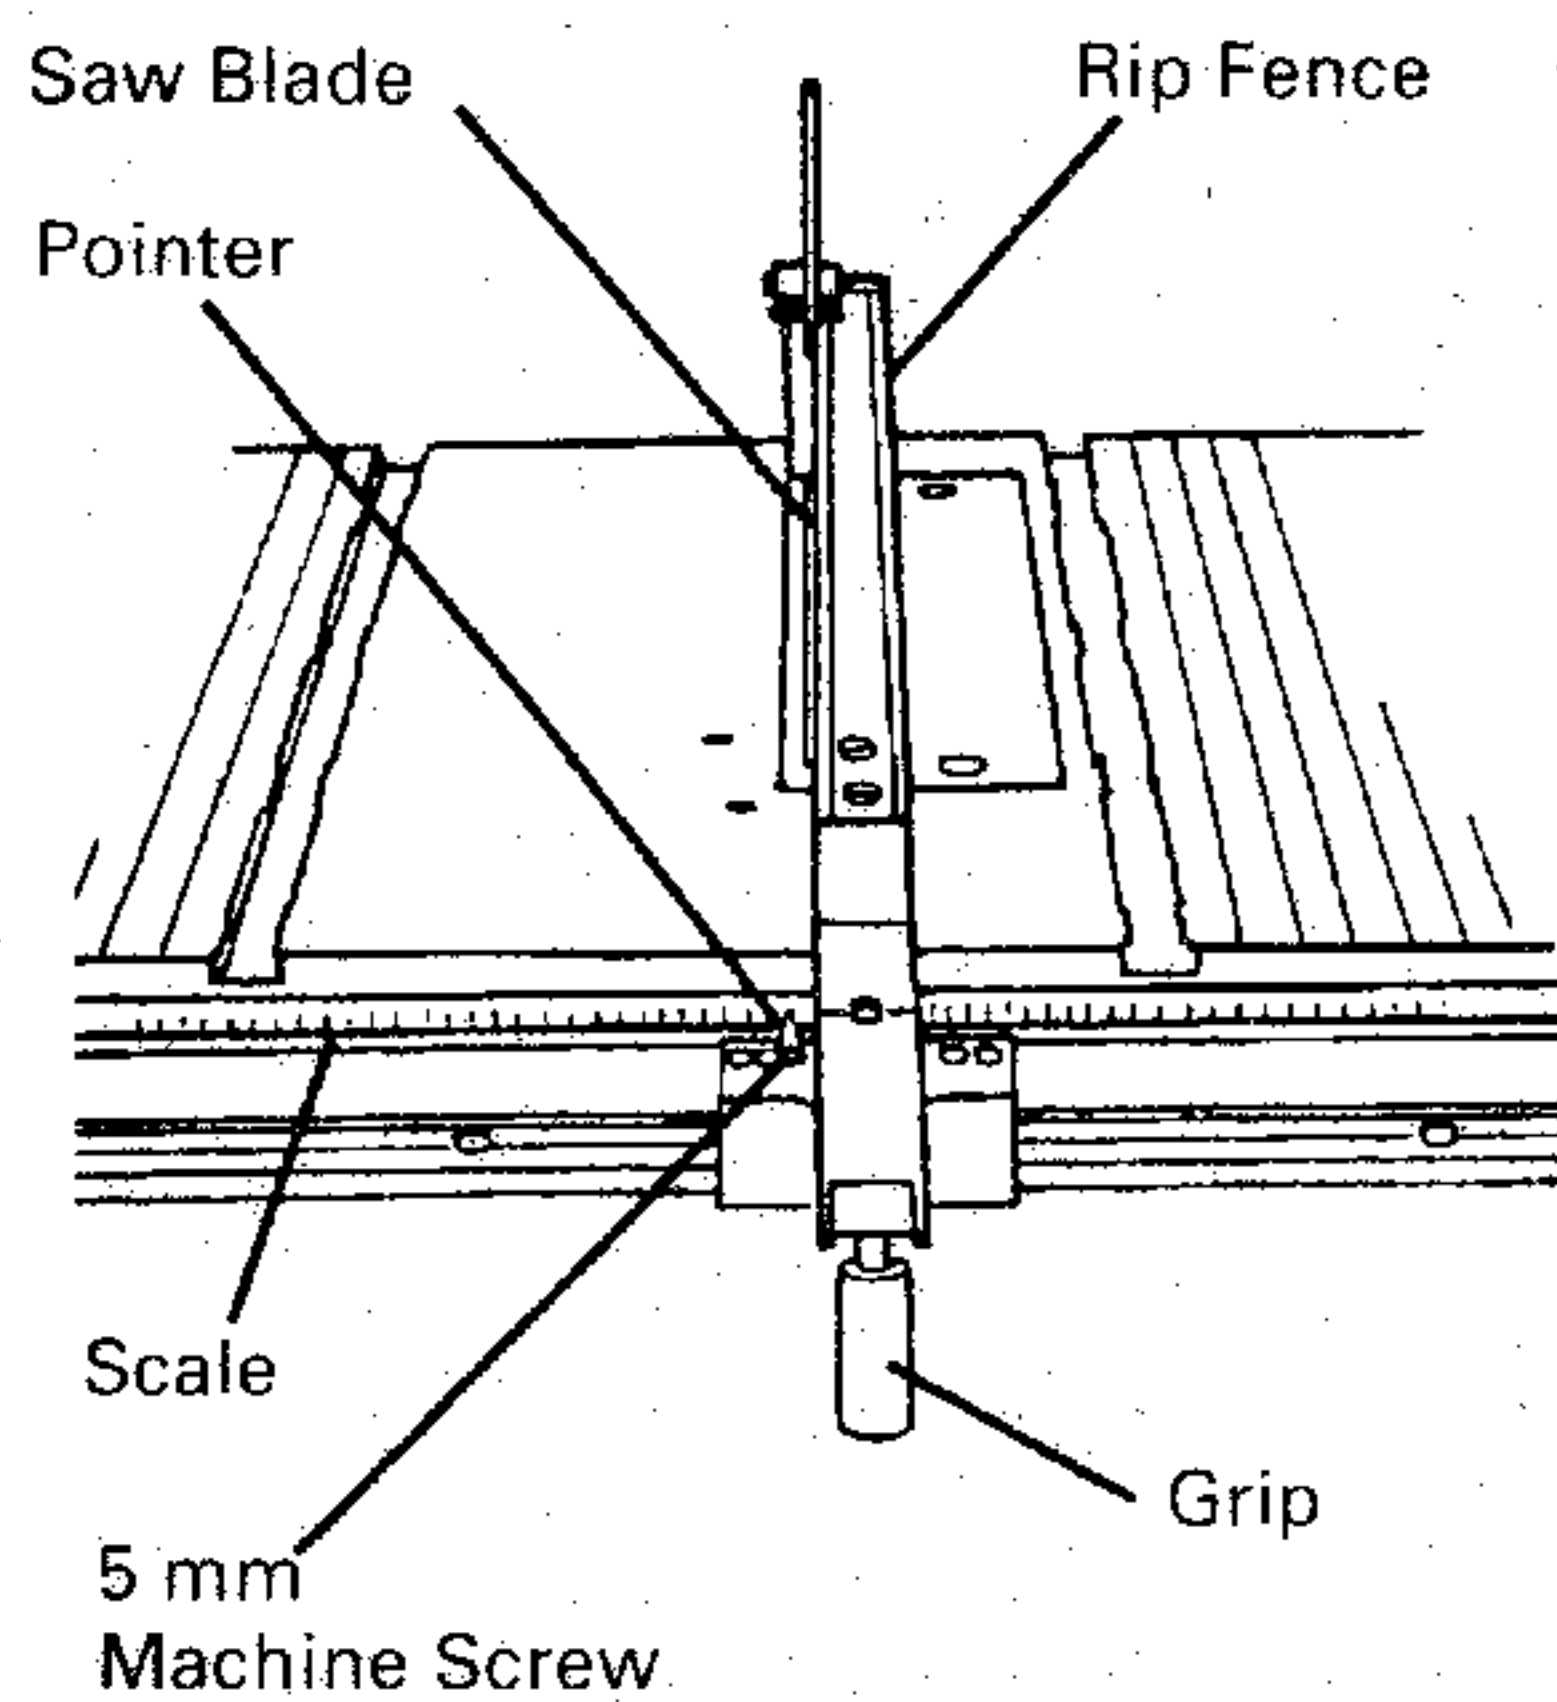

Fig. 17
- (1) Raise the grip to the upside and release the fixation of the rip fence. And move the rip fence to bring it into tight contact with the side of the saw blade.
- (2) Make sure that the pointer points to 0 on the scale provided on the table.
- (3) If the pointer does not point to 0 on the scale,
- ① Lower the grip to the bottom and fix the rip fence.
- ② Loosen the 5 mm machine screw holding the pointer (see Fig. 17).
- ③ Adjust the pointer to the 0 position and retighten the 5 mm machine screw.
- ④ After adjustment, recheck to see that the pointer now points to 0.